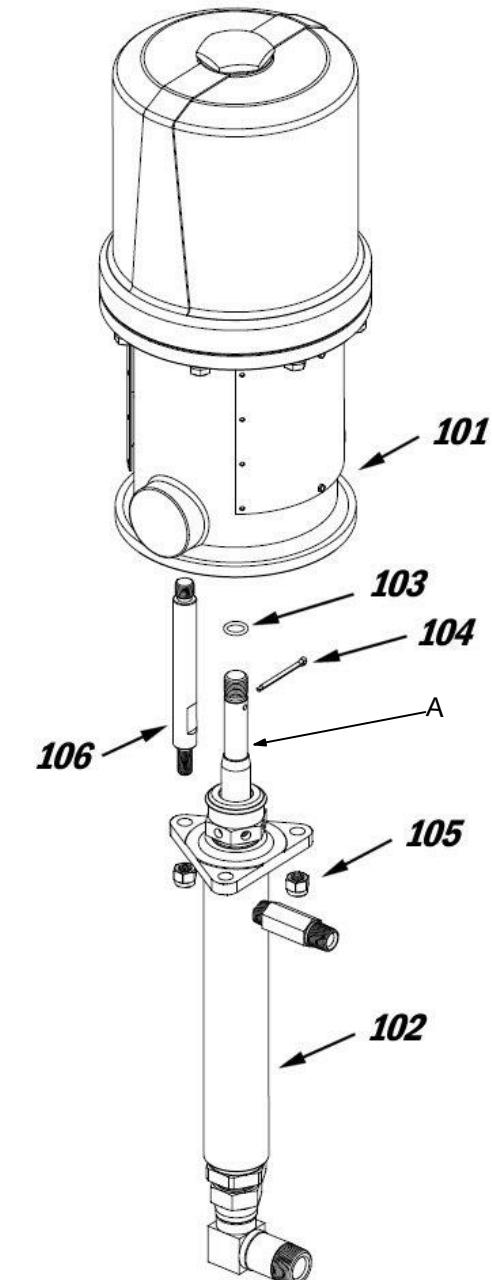

Fig. 3
3. Unscrew the tie rod locknuts (105) from the tie rods (106). Remove the cotter pin (104). Unscrew the displacement rod (A) from the air motor (101). Carefully pull the displacement pump (102) off the air motor (101). See Fig 3.
1. Screw the displacement rod (A) into the base of the air motor (101). Install the cotter pin (104). Orient the pump's fluid outlet to the air motor's air inlet as was noted in step 2 under **Disconnecting the Displacement Pump**. See Fig 3.
2. Position the displacement pump (102) on the tie rods (110). Screw the locknuts (106) onto the tie rods (110) loosely.
3. Mount the pump and reconnect all hoses. Reconnect the ground wire if it was disconnected during repair. Torque the packing nut/wet-cup (4) to 24–27 N·m (18–20 ft-lb). Fill the wet-cup with Storm Machinery Throat Seal Liquid or compatible solvent.
4. Tighten the tie rod locknuts (106) evenly, and torque to 34–41 N·m (25–30 ft-lb).